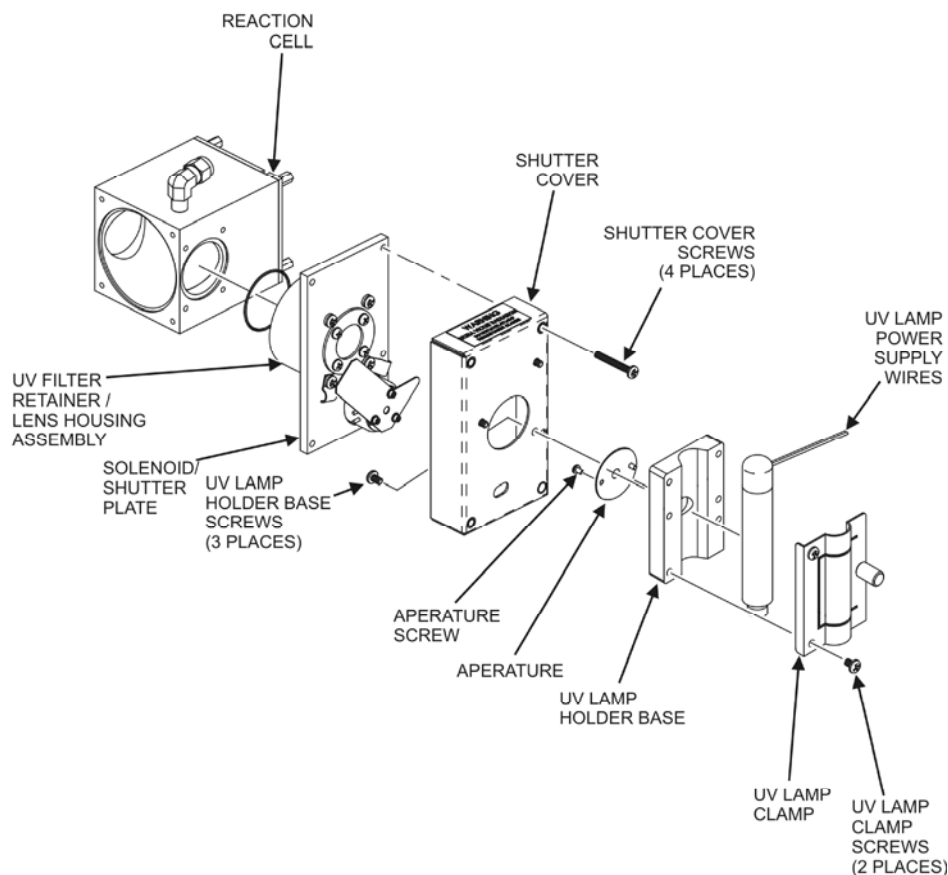

Figure 9-4. Shutter Assembly
3. Loosen, but do not remove the two UV lamp bracket screws and the large brass thumbscrew located on the shutter housing (refer to Figure 9-4) so that the lamp can be moved.
**DO NOT grasp the UV lamp by its cap when changing its position (refer to Figure 9-4). Always grasp the main body of the lamp.**